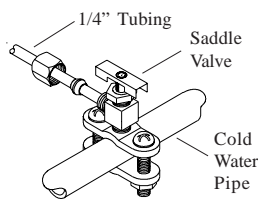
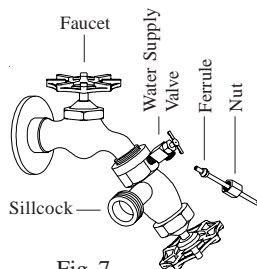

Fig. 6
Fig. 7
- **Connect water supply line.** Find the closest supply of water. Use a saddle valve (Fig. 6) to connect 1/4" tubing to the cold water supply or use a Sillcock and water valve connected to an outside faucet (Fig. 7). Place the nut and ferrule on the tubing and tighten the nut until water tight. **IMPORTANT:** Do not connect the water supply to any soft water applications. Soft water will cause corrosion and decrease the life of the cooler.